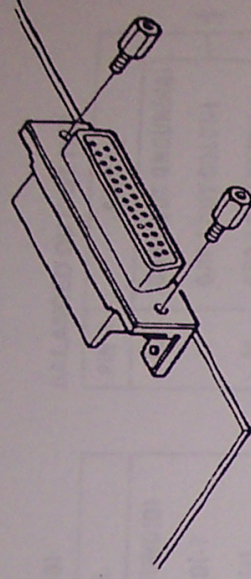

FIG. 7
5. Remove hexagonal nut screws from the D-sub connector on the provided BAL IN PCB and BAL OUT PCB assemblies as shown in Figure 7.